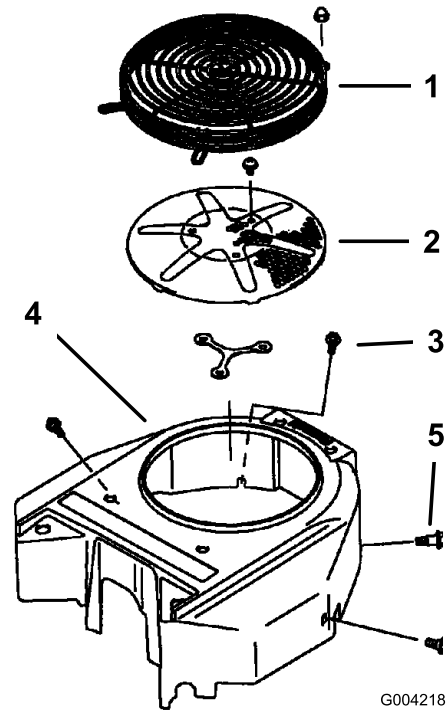

Figure 76
3. Remove the air intake screen, recoil starter, and fan housing (Figure 76).
5. Install the air-intake screen, recoil starter, and fan housing (Figure 76).